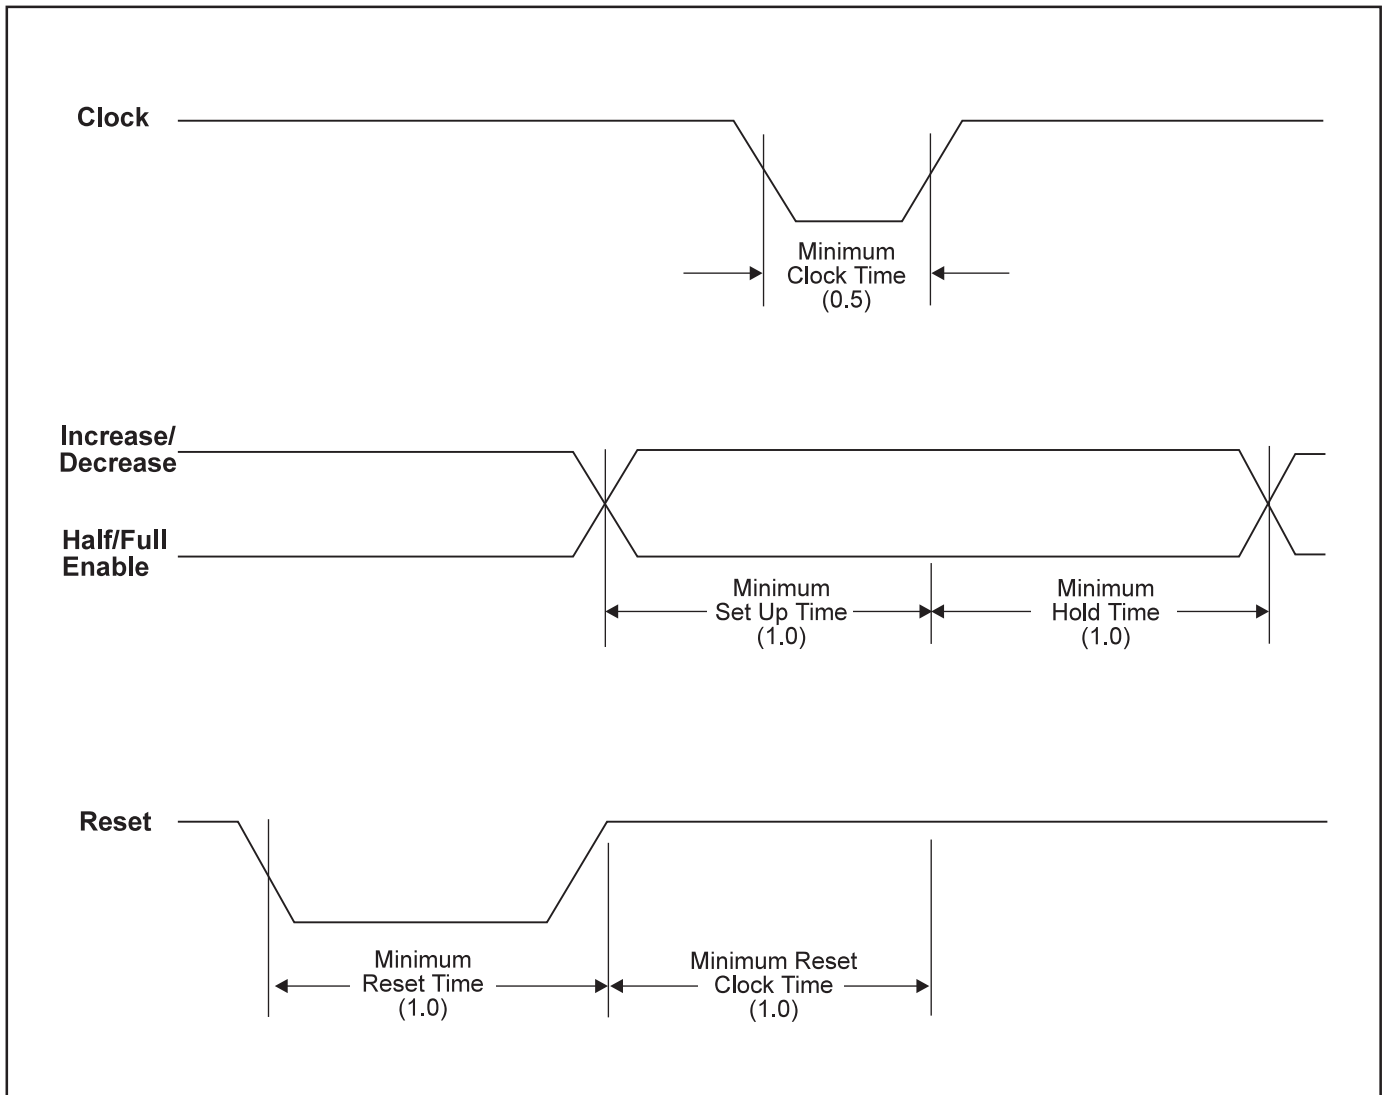

Figure 2. Computer Control Translator Board Timing Chart.
1. To show the timing relationships between the signals applied to the Terminal Block (TB1) when a computer is used to control the TTL Input unit, see Figure 2. "Computer Control Translator Board Timing Chart" below.